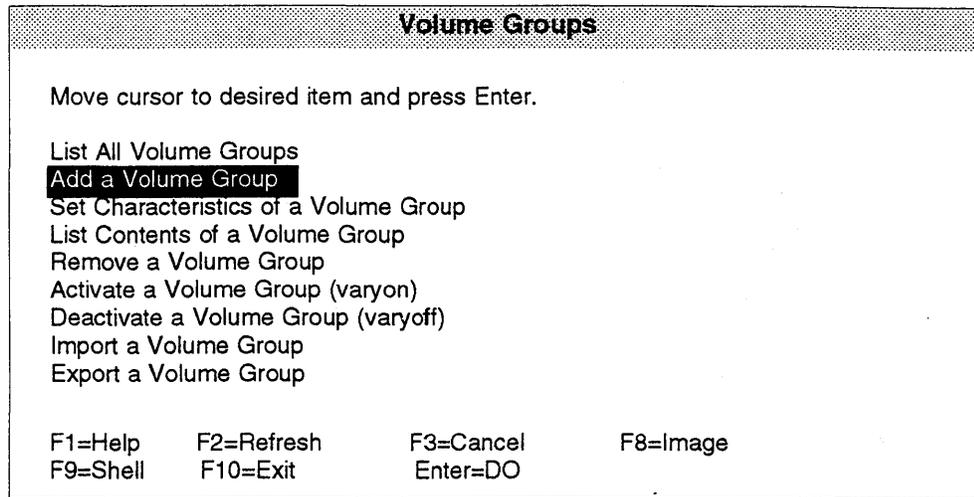

Figure 4-10: Volume Groups Menu
- 3 Select "Volume Groups," and the menu will appear as shown in Figure 4-10.